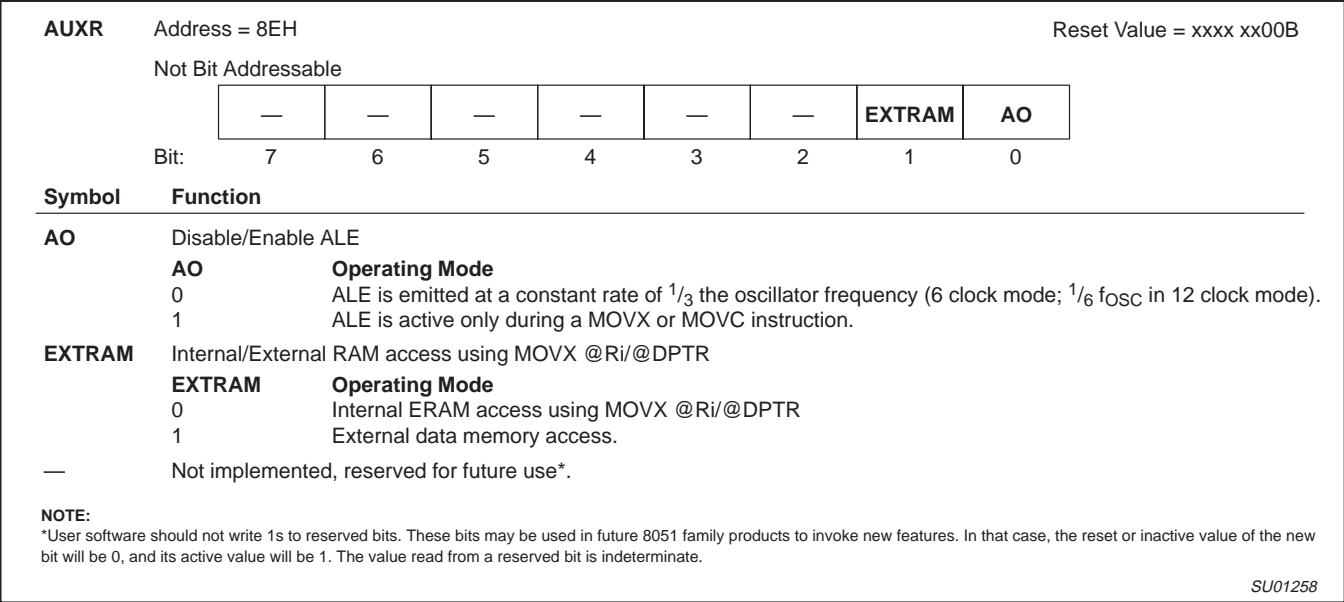

Figure 27. AUXR: Auxiliary Register
4. The 256/768-bytes expanded RAM (ERAM, 00H – 1FFH/2FFH) are indirectly accessed by move external instruction, MOVX, and with the EXTRAM bit cleared, see Figure 27.